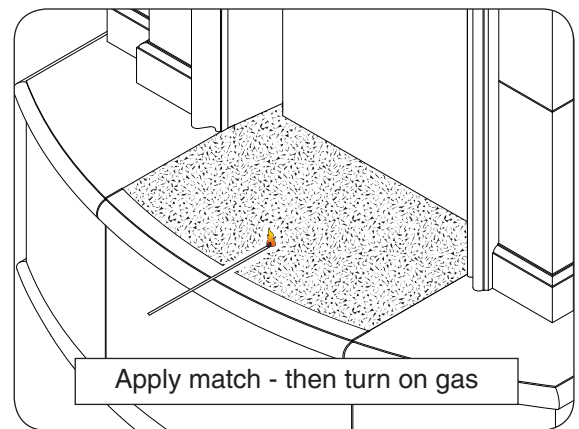

Fig. 31-1 Lighting burner
3. Lay a lighted long-stem match on the surface of the decorative media near the burner (**do not hold the match in your hand**) or use a lighted long-necked butane lighter (Fig. 31-1).